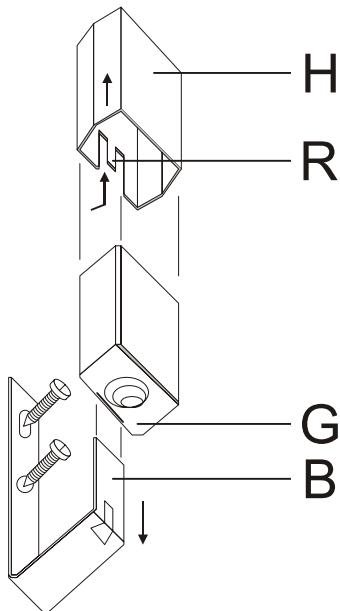

Fig. 2. Mounting
Refer to Fig. 2. Press in the clasp (R) and pull off the top (H). Pull the clip (B) out of the housing (G). Screw on the clip (B) and put on the housing. To wire, unscrew the lid. Slide the top (H) over the housing until the clasp is firmly attached.